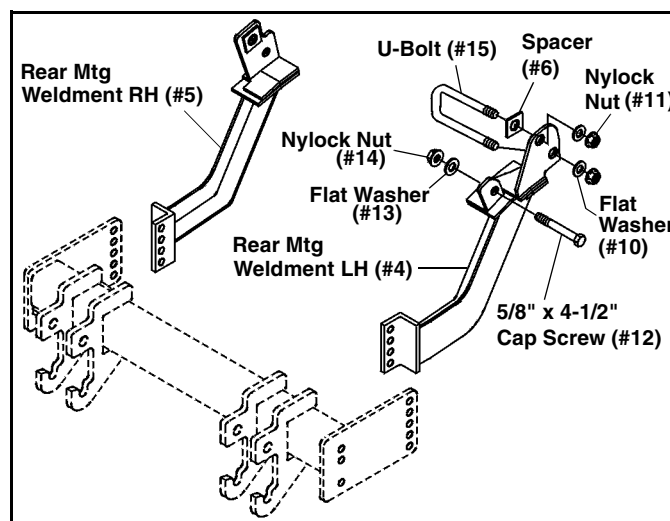

Figure 1
*NOTE: The following vehicles will require a Shim Plate (#6) between the rear holes on the left and right hand brackets and the vehicle frame: (See Figure 1.)*